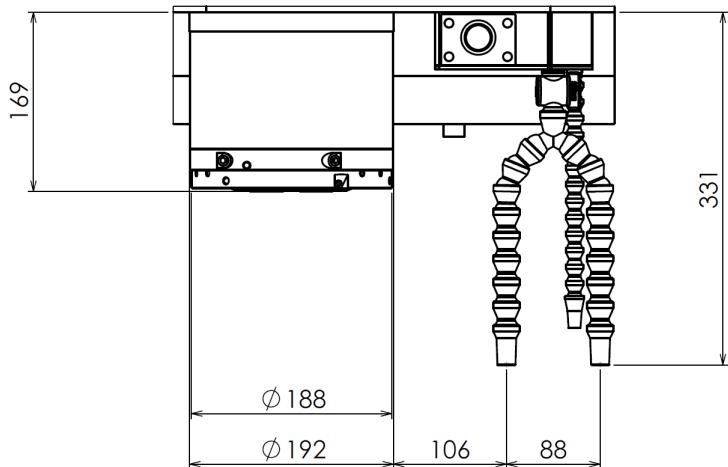
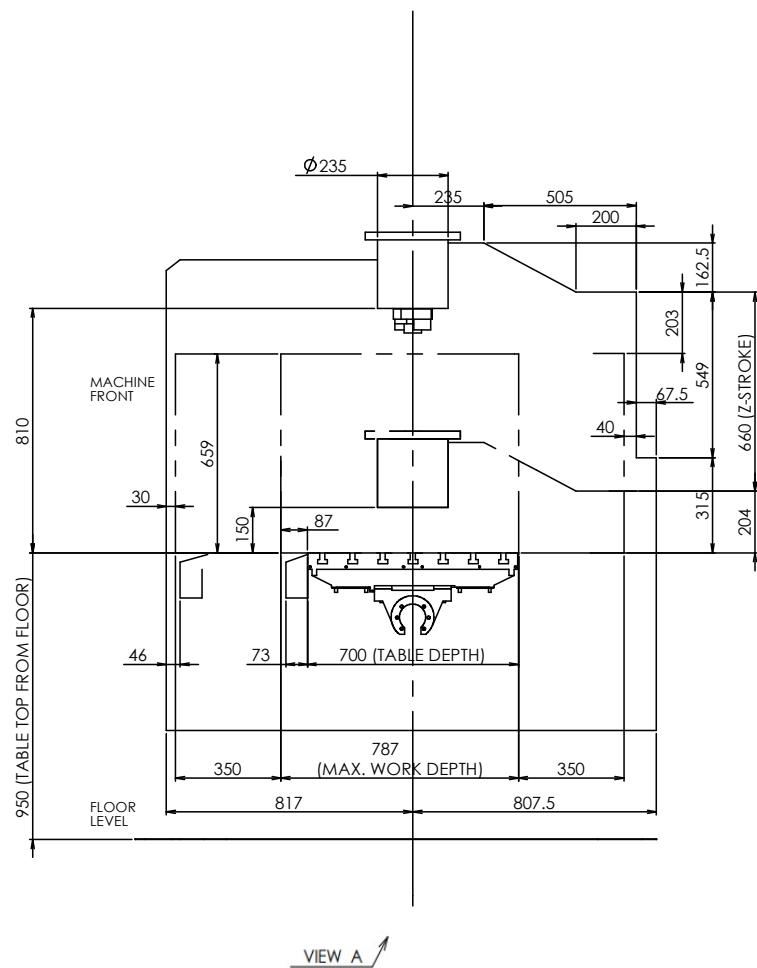

Figure 1.3 14K Spindle Head Dimensions
Figure 1.6 PS155 (SPD-14K) Machine Stroke Limits & Work Area 2
To prevent interference between the workpiece (e.g. where the workpiece size is bigger than the table size) and other components, mainly the ATC and splash guard, the movement range of the workpiece is restricted to be within the maximum workpiece limitations (sand pattern hatching) as shown in Figure 1.3 to Figure 1.6.
The automatic tool change operation can be performed with workpieces within the dimensions shown in Figure 1.3 to Figure 1.6 and the conditions below are satisfied.
- When the workpiece is in the machining chamber, the tool change operation cannot be performed if tool dimensions do not satisfy the conditions in Figure 1.3 to Figure 1.6.